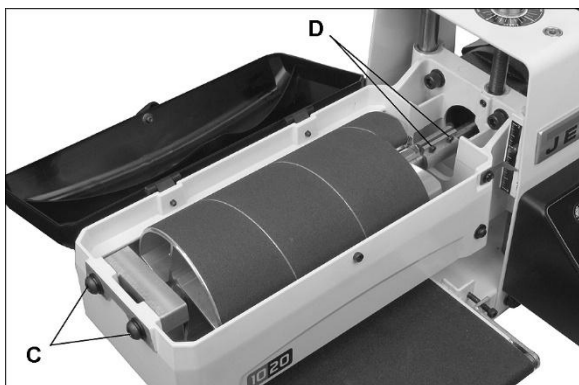

Figure 10-2: drum removal
2. Remove two socket head screws (C, Figure 10-2) on the bearing block.
3. Loosen two screws on the coupling (D, Figure 10-2).